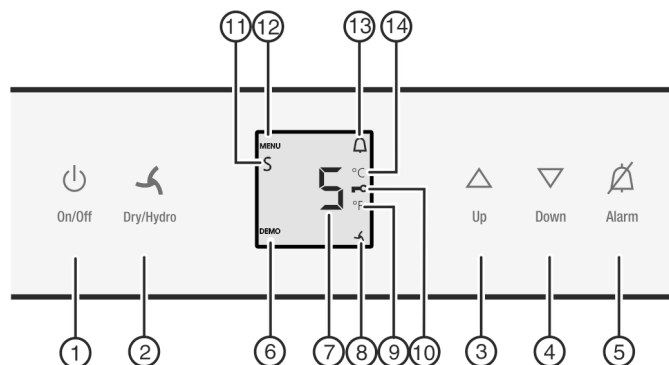

Fig. 2
- ▶ Press On/Off button *Fig. 2 (1)*.
- ▶ To activate setting mode: Press and hold the Dry/Hydro button *Fig. 2 (2)* for approx. 5 s.
- ▷ The Menu symbol *Fig. 2 (12)* lights up.
- ▶ Using Up button *Fig. 2 (3)*/ Down button *Fig. 2 (4)* select °.
- ▶ To confirm: Briefly press the Dry/Hydro button *Fig. 2 (2)*.
- ▶ To exit setting mode: Press On/Off button *Fig. 2 (1)*.
- ▶ To activate setting mode: Press and hold the Dry/Hydro button *Fig. 2 (2)* for approx. 6 s.
- ▶ Press the Dry/Hydro button *Fig. 2 (2)* briefly to confirm.
- ▶ To switch on the child-proof lock, press the Dry/Hydro button *Fig. 2 (2)* briefly.
- ▷ The Child safety symbol *Fig. 2 (10)* lights up. **c** flashes on the display.
- ▶ To switch off the child-proof lock, press the Dry/Hydro button *Fig. 2 (2)* briefly.
- ▷ The Child Safety symbol *Fig. 2 (10)* goes out. **c** flashes on the display.
- ▶ To cancel setting mode: Press the On/Off button *Fig. 2 (1)*.
- ▶ Press Alarm button *Fig. 2 (5)*.
► To activate setting mode: Press and hold the Dry/Hydro button *Fig. 2 (2)* for approx. 5 s.
▷ The Menu symbol *Fig. 2 (12)* lights up.
► To access the Sabbath mode function: Briefly press the Dry/Hydro button *Fig. 2 (2)*.
► **To turn on** Sabbath mode, briefly press the Dry/Hydro button *Fig. 2 (2)*.
► **To turn off** Sabbath mode, briefly press the Dry/Hydro button *Fig. 2 (2)*.
► To deactivate setting mode: Press the On/Off button *Fig. 2 (1)*.